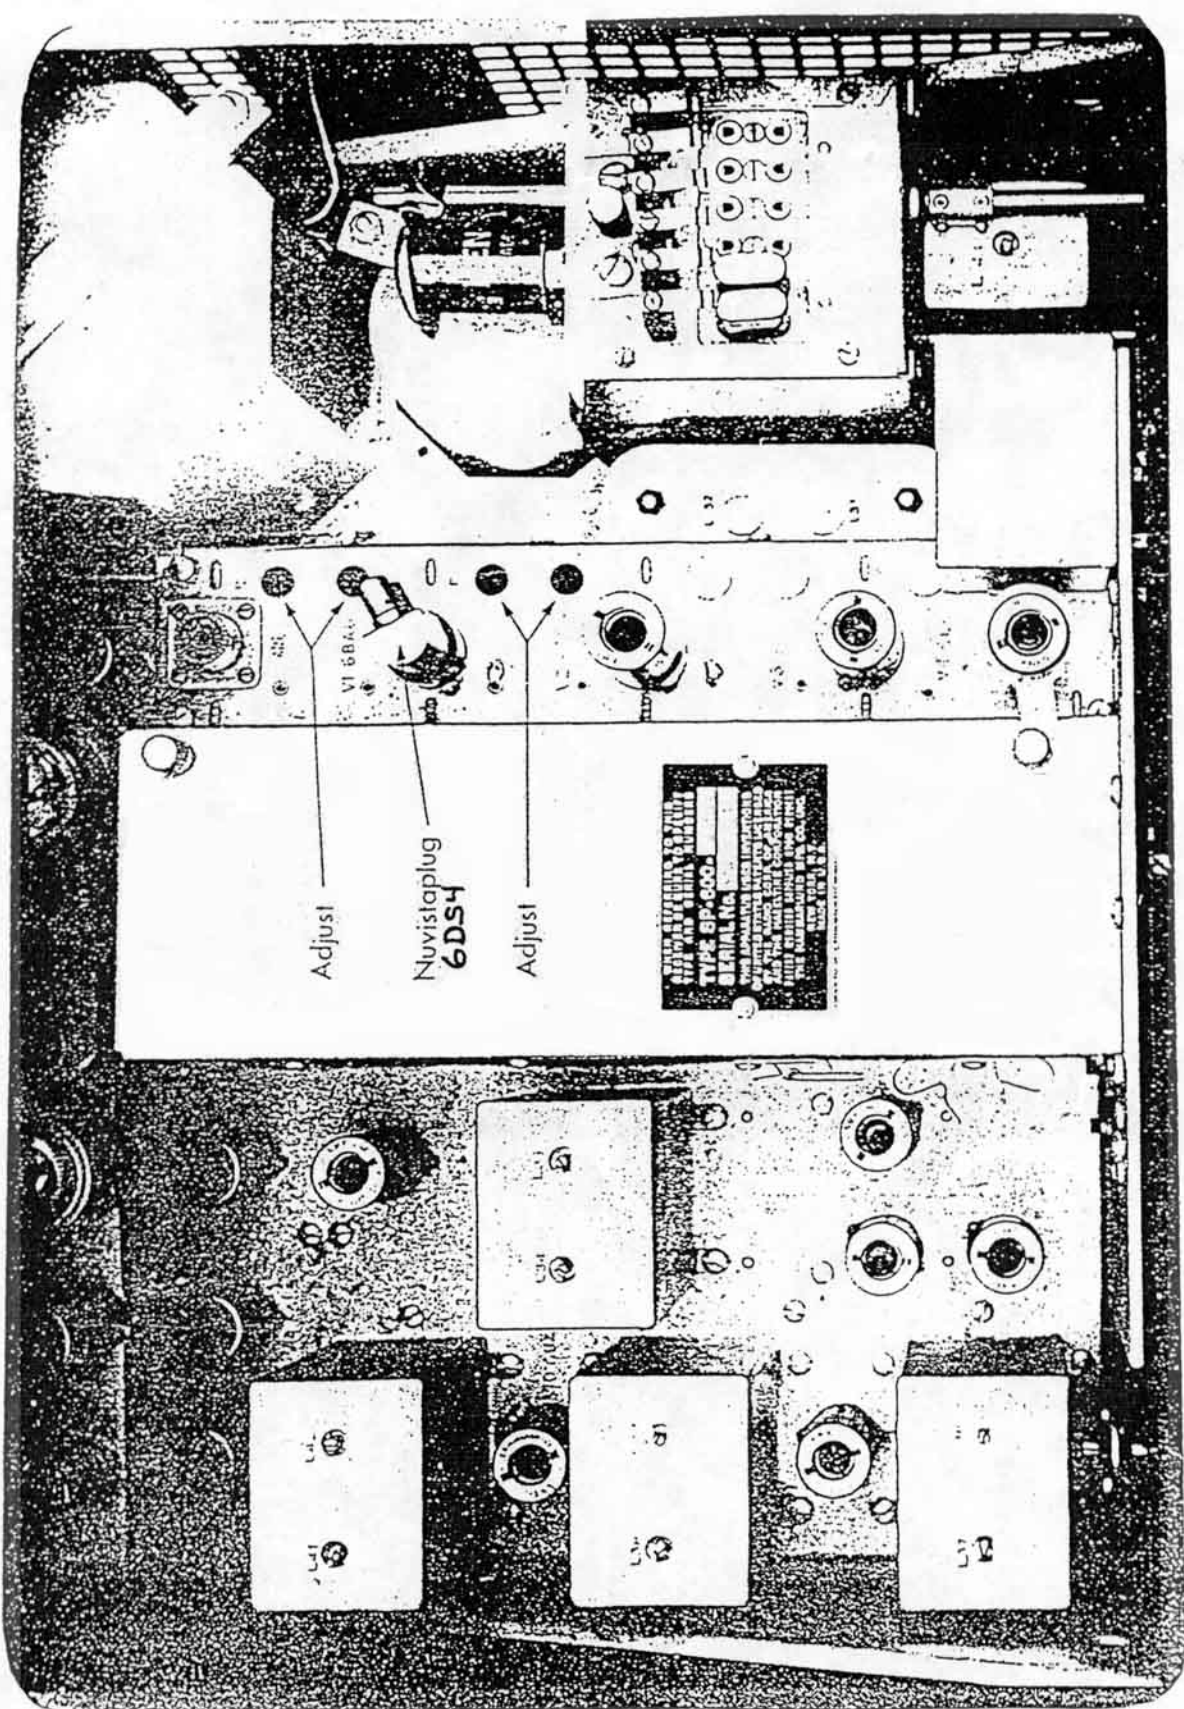

FIGURE:2 NUVISTAPLUG IN SP-600
6. Adjust the trimmers for the antenna and the first RF stage while listening to the tone output (See Figure 2). Each time an improvement is made, decrease the amplitude of the CW generator output so that the audio tone is barely heard under the internally generated white noise of the receiver. In most cases the two trimmer capacitors marked "C" need to be readjusted, but the two trimmer inductors marked "L" do not need readjustment.